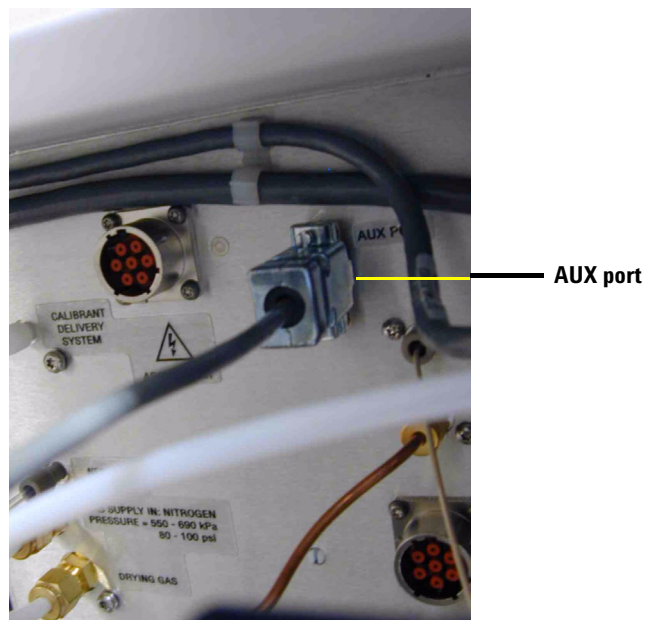

Figure 39 Connect the video cable to the LCD cable
- b Attach the 9-pin connector with one cable present to the **AUX** port on the LC/MSD Trap. See Figure 39.